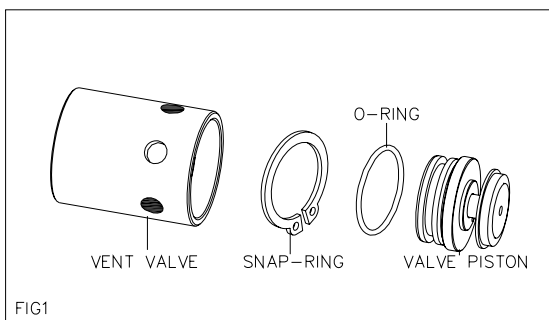

FIG1
1. Check the oil level. Fill if below Minimum on the sight gauge. Refer to Fig. 1 on page 6.
- 3.Third , put a small amount of grease on the o-ring and reassemble(FIG1).